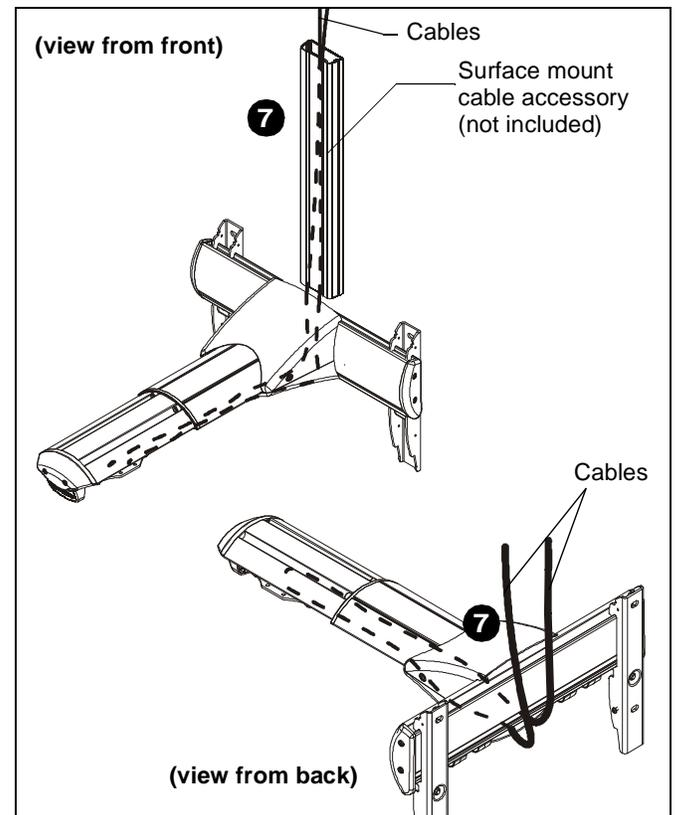

Figure 22
- Thread cables down through a surface mount cable accessory (not included), then behind and into the wall bracket. (See Figure 22) **Proceed to Step 8**